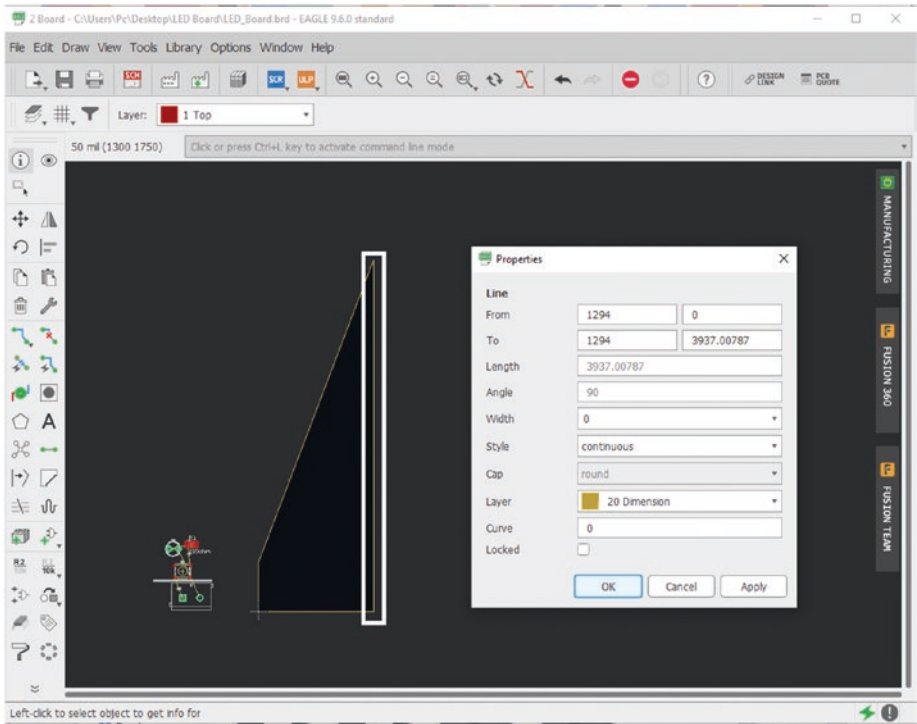

Figure 5-61. Select right vertical line
10. Click the right-side vertical line. See Figure 5-61.